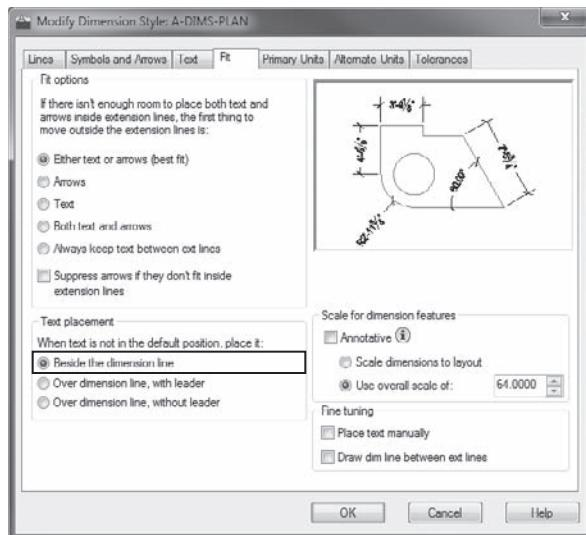

FIGURE 12.64 The Fit tab of the Modify Dimension Style dialog box after making the change
- In the Text Placement area, select the Beside The Dimension Line radio button (see Figure 12.64); click OK and then Close to shut both dialog boxes.